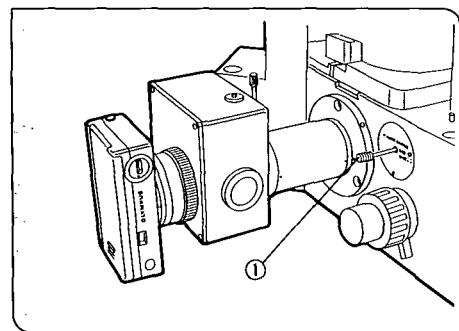

Fig. 106
(Figs. 106, 107)
- Pull out the photo frame ① to engage the photo mask into the light path for observation. (Fig. 106)